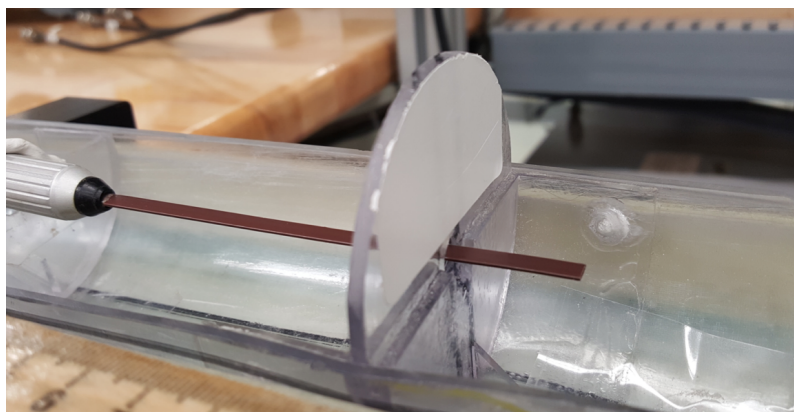

Figure 75 Hall probe in the X axis orientation
13. Remove the axial probe from the tray and place the transverse probe in the tray. Position the probe to read the X coil (**Figure 75**).